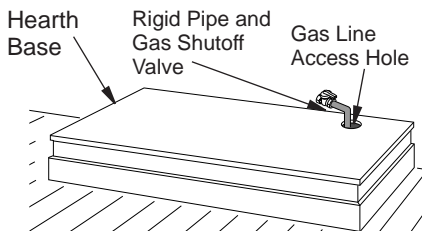

Figure 11 - Placing Hearth Base Accessory Against Wall
3. Place hearth base against wall at installation location. Cut an access hole in hearth top to run flexible gas line to firebox (see Figure 11). Make sure to locate access hole so cabinet mantel will cover it when installed.